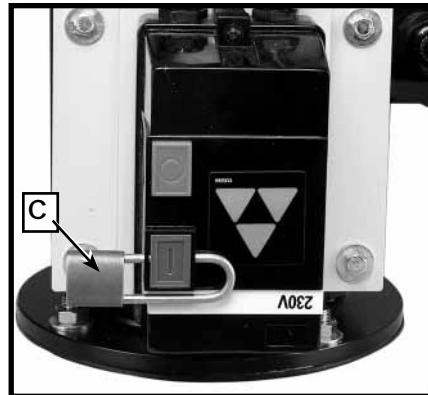

Fig. 18
**IMPORTANT:** When the machine is not in use, the "ON" button (A) Fig. 17 should be locked to prevent unauthorized use, using a padlock (C) Fig. 18 with a 3/16" diameter shackle through the hole beside the button.